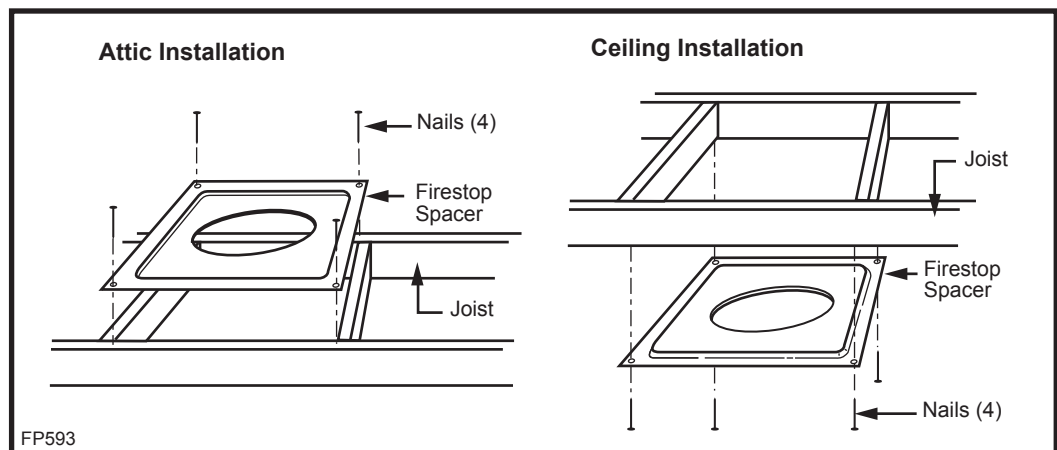

Fig. 18 Installing firestop spacer.
Continue installing the pipe as required until pipe is installed up through the ceiling. At this point, you must install a firestop spacer. Refer to Figure 18 for appropriate spacer orientation.
Figure 18 shows different installation procedures for both an area that *is* an attic and an area that *is not* an attic.
If you encounter additional ceilings, repeat same steps required for first ceiling installation. Refer to firestop illustration on Page 12, Figure 18.
**NOTE:** The air space dimensions in this manual that pertain to model 11CF chimney pipe have been changed from 2" to 1" (51 - 25mm) clearance for first joist space only. This change only applies to Majestic Fireplaces models STR42 and CVR42 fireplaces. Because of framing concerns these models, and only these models, have been tested and approved at the reduced clearance. In all other cases the minimum air space referred to on the UL label on the 11CF pipe must be maintained. A special firestop is shipped with these units that will maintain the 1" (25mm) clearance at the first joist. The chimney hole size for this firestop will be 15½" (394mm). Refer to Figure 18 for ceiling joist installation instructions.